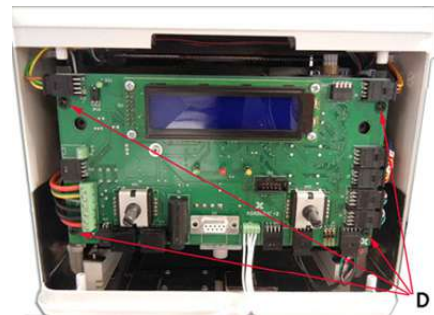

Fig. 1
- Remove the Can STEP4 board by unscrewing the 4 screws **D**, see **Fig.1**
- Remove the RSR008 board by unscrewing the 4 screws **D**, see **Fig.1**